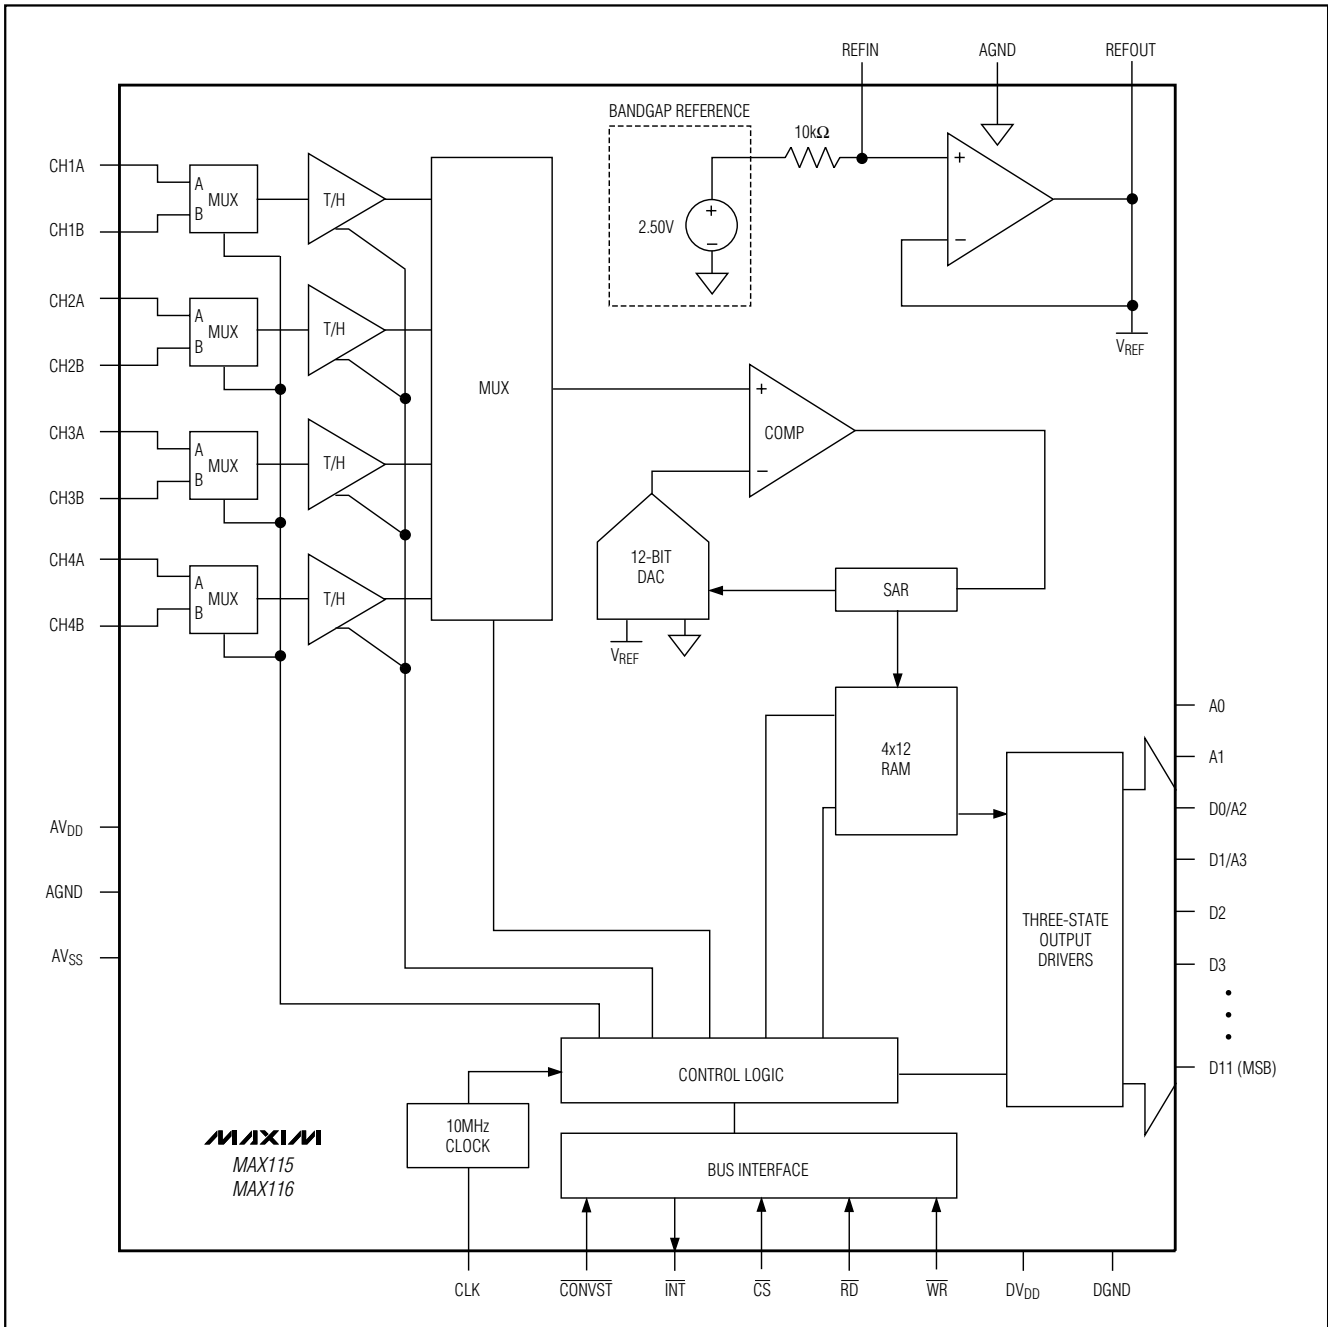

Figure 2. Functional Diagram
**Note 9:** See Figure 2.
The MAX115/MAX116 use a successive-approximation conversion technique and four simultaneous-sampling track/hold (T/H) amplifiers to convert analog signals into 12-bit digital outputs. Each T/H has two multiplexed inputs, allowing a total of eight inputs. Each T/H output is converted and stored in memory to be accessed sequentially by the parallel interface with successive read cycles. The MAX115/MAX116 internal micro-sequencer can be programmed to digitize one, two, three, or four inputs sampled simultaneously from either of the two banks of four inputs (Figure 2). The MAX115/MAX116 can operate with either an external or internal clock. For internal operation, connect CLK to DVDD.
The MAX115/MAX116 have eight conversion modes plus power-down, which are programmed through a bidirectional parallel interface. At power-up, the devices default to the Input Mux A/Single-Channel Conversion mode. The user can select between two banks (mux inputs A or mux inputs B) of four simultaneous-sampled input channels, as illustrated in Figure 2. An internal microsequencer can be programmed to convert one to four channels of the selected bank per sample. For a single-channel conversion, CH1 is digitized, and then  $\overline{INT}$  goes low to indicate completion of the conversion.